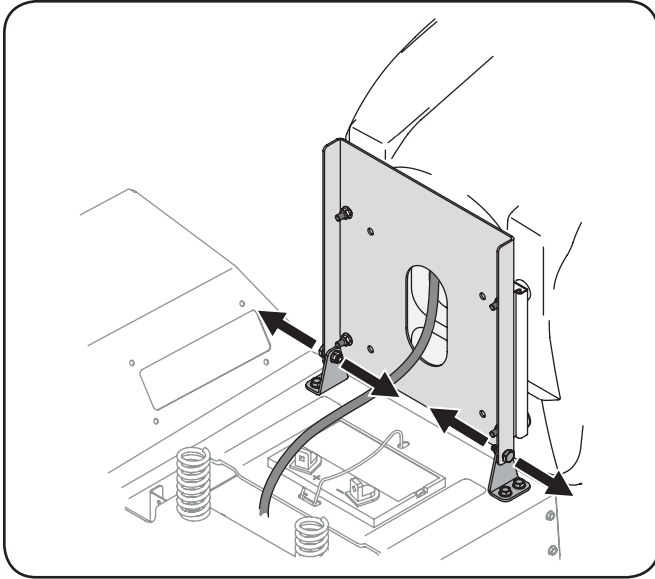

Figure 3-3
- Remove the two shoulder bolts and lock nuts in the seat pan as shown in Figure 3-3.